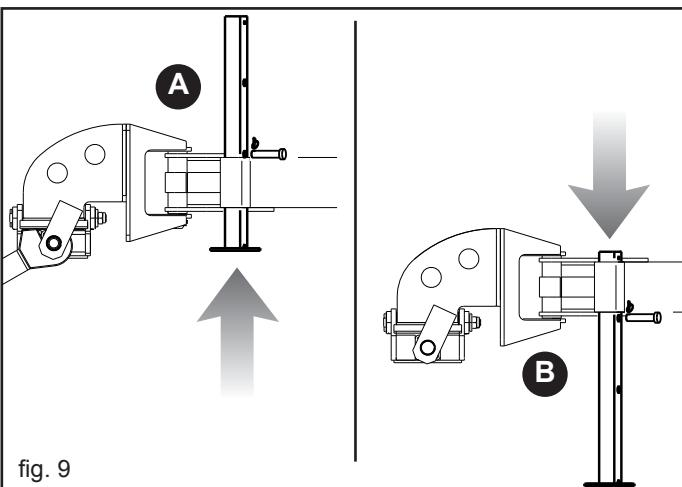

fig. 9
- 4) Raise the feet (A, Fig. 9).
- 1) Lower the supporting base elements (B, Fig. 9).